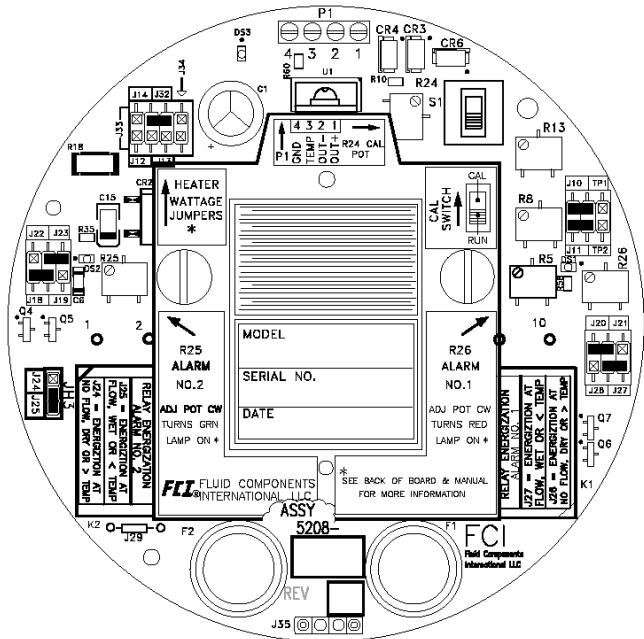

FIGURE 1
- 1 SEE FIGURE 1 ABOVE IN CONJUNCTION WITH THE SUBASSEMBLIES FOR CLARIFICATION OF THE REFERENCE DESIGNATOR LOCATIONS. VIEW OF THE FINAL CONFIGURATION MAY VARY FROM FIG 1.